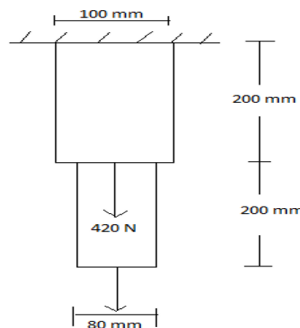

Figure 2
- (b) A thin steel plate of uniform thickness 25mm is subjected to a point load of 420 N at mid depth as shown in Figure 2. Take $E = 2 \times 10^5 \text{ N/mm}^2$. Calculate the following: (i) Displacement at each nodal point (ii) Stresses in each element. [7M]